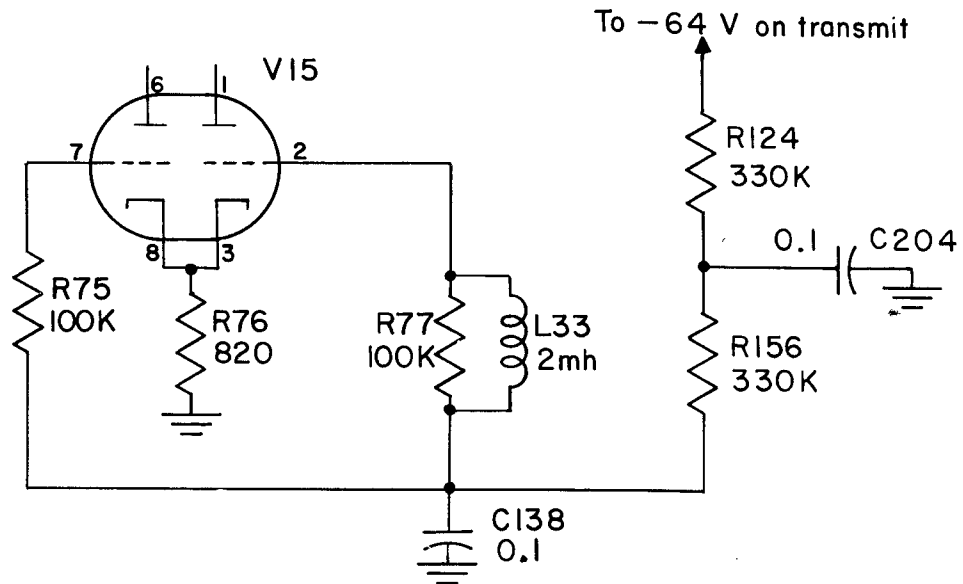

Figure 5. Partial Schematic V15, After Modulation
9. Refer to figure 5 for schematic of completed modification.